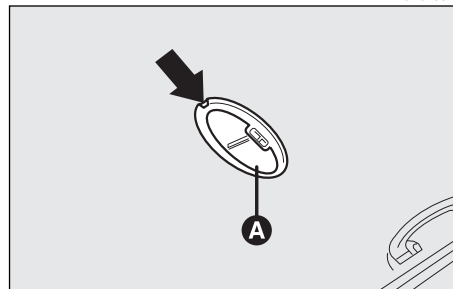

fig. 57
- Remove the rooflight (**A-fig. 57**) levering in the point shown by the arrow.